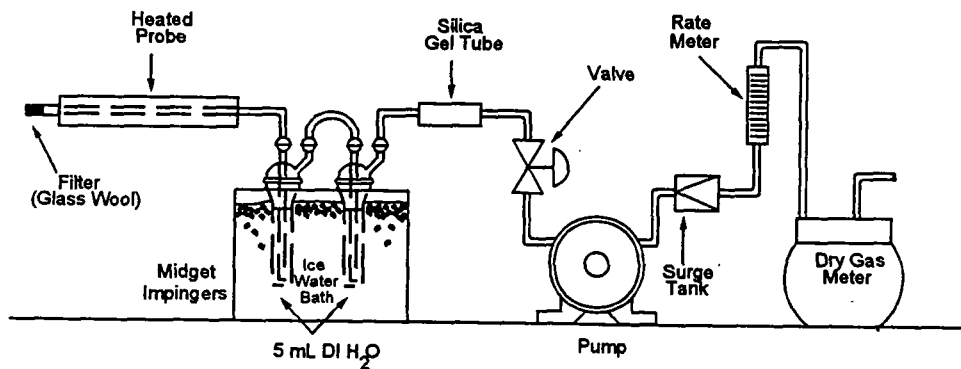

Figure F4a-1. Moisture Sampling Train - Approximate Method.
1. Refer to Figure F4a-1. Place exactly 5 mL water in each impinger.